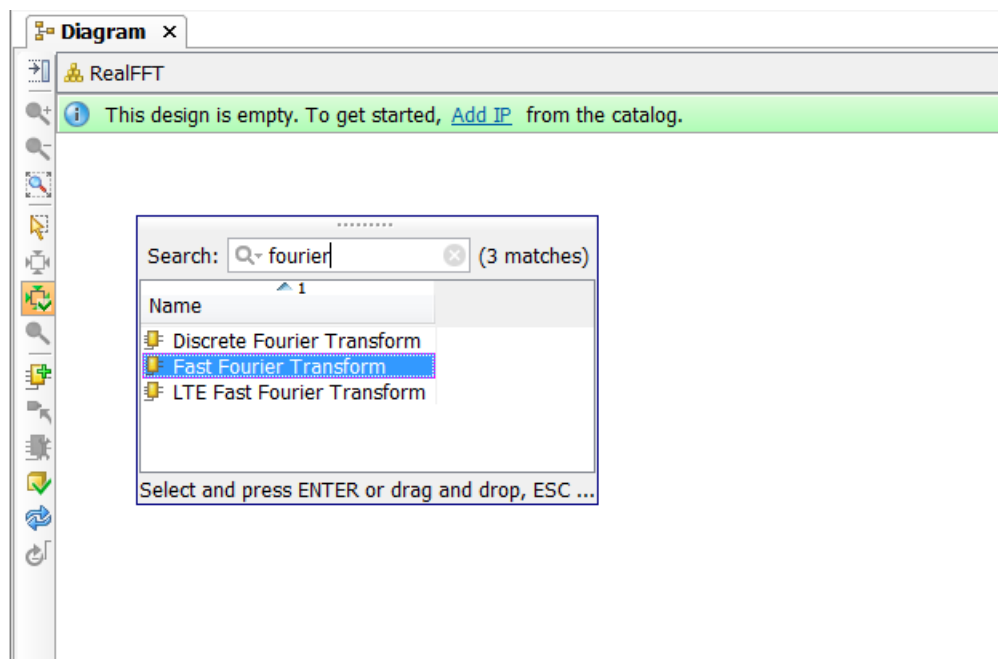

Figure 196: Add the Xilinx FFT IP
2. In the Diagram tab click the **Add IP** link in the “get started” message (**Figure 196**).